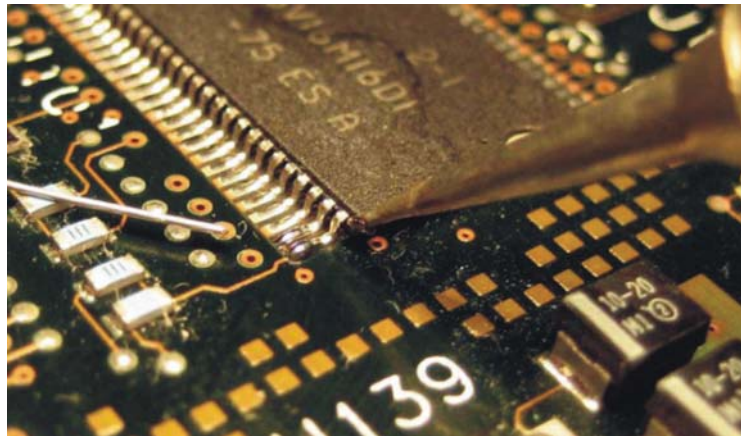

Figure 2-33 Solder added to target points
- 1 Add some solder to the target points in the DUT. **Figure 2-33** shows extra solder added to the pads for the first two pins on an IC package.